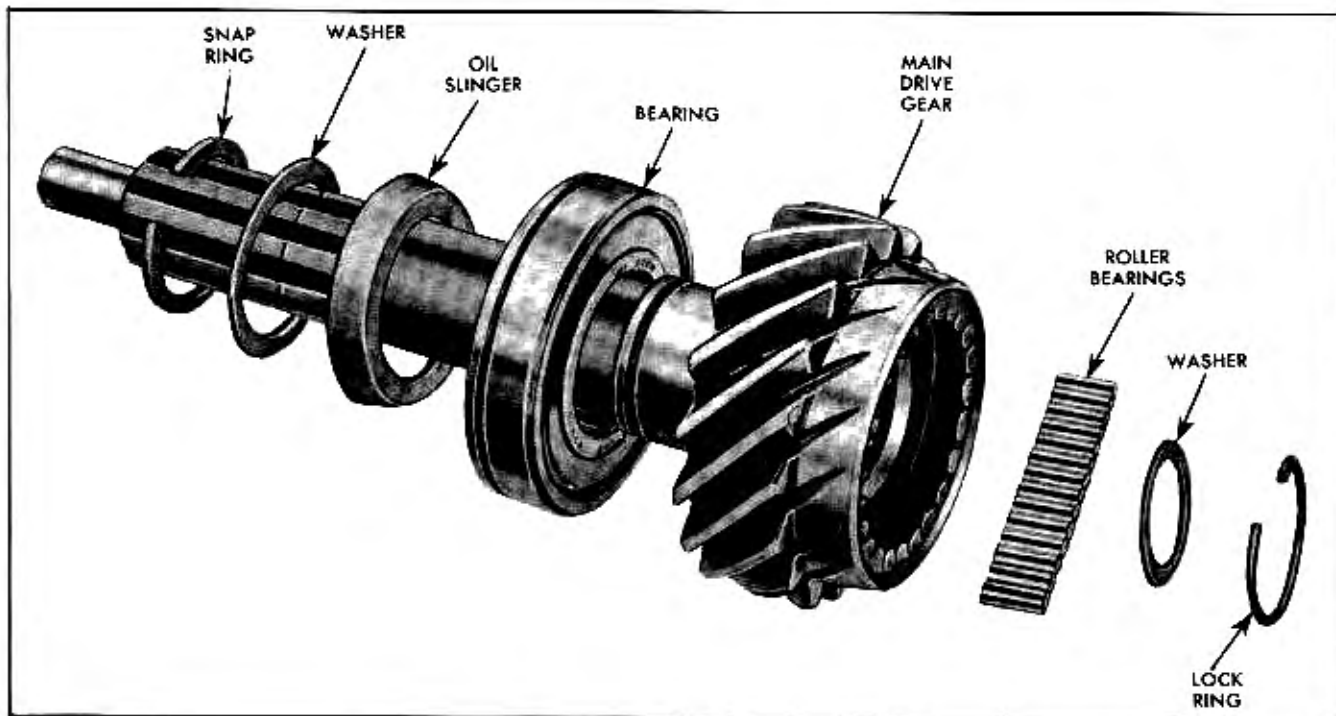

Fig. 7-21 Main Drive Gear and Front Bearing Assembly
1. Remove snap ring, washer, and oil slinger holding main drive gear bearing to gear (Fig. 7-21).